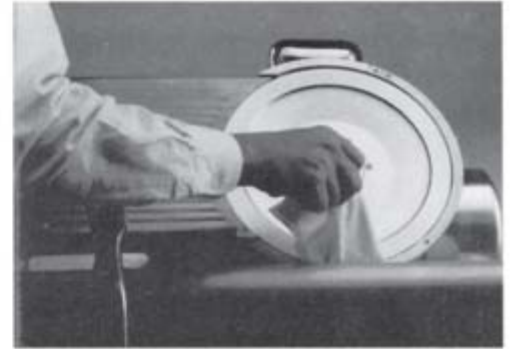

Figure 16-1
- The knife ring guard must now be cleaned. To clean the knife ring guard, soak a clean cloth in the mild detergent and warm water solution. **Carefully** insert the cloth between the knife and the knife ring guard as indicated by Figure 16-1. While holding the cloth between the knife and the knife ring guard, work it along the entire back side of the knife, between the knife and knife ring guard. Repeat this procedure as necessary. A nylon brush could also be used if preferred.